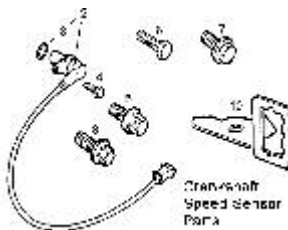
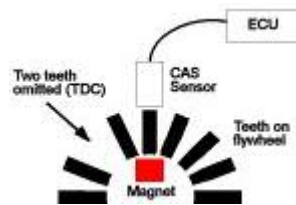

Figure 1
Figure 7
The CAS is typically positioned beside the cam belt or crankshaft (**Figure 1**). A number of steel pegs or steps (i.e. different thickness of material) are set at regular intervals around the circumference of the flywheel or crankshaft (**Figure 7**). Typically a pin or a step may be set at every 10° (but this number does vary depending on what the engine is). The flywheel thus becomes a reluctor.
- Remove the CAS by unscrewing the small bolt it from the bracket on the bottom block. Replace it with a new item from your dealer and ensure a new sealing O-ring is with the item (see Figure 1 items 2 and 3). Tighten the CAS up to 6 Nm.
Note: on some models the mounting bracket (see Figure 1 item 10) may have to be replaced, as there was a common fault that they got bent. This meant that the CAS was at the wrong distance from the teeth, hence sending false information back to the ECU, commonly resulting in the ECU warning lamp to be illuminated on the dash.